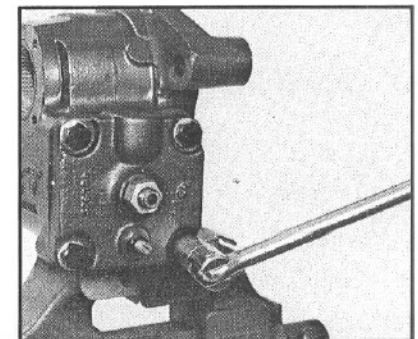

Figure 49
15. If your gear is equipped with a removable end cover (37), remove the four end cover bolts (41) and washers (41A) with a 13/16 inch socket (FIG. 49). Then prepare for fluid to drain and remove the end cover.